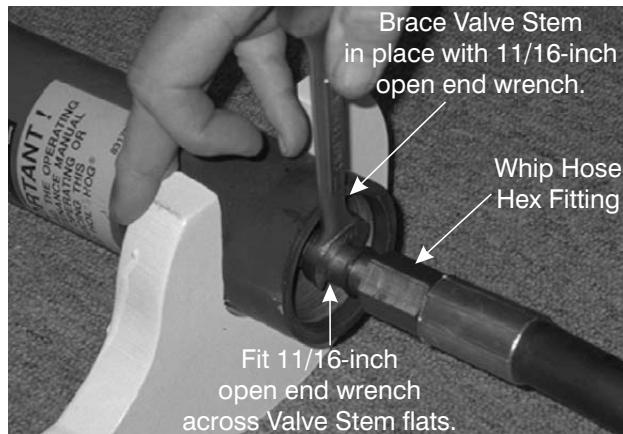

Figure 8-12. Hold Valve Stem in Position
3. Fit an 11/16-inch open-end wrench across the exposed flats of the Valve Stem. Brace the wrench against the edge of the End Cap and pry the stem outward with enough force to prevent the Valve Stem from pulling back into the End Cap as shown in Figure 8-12.